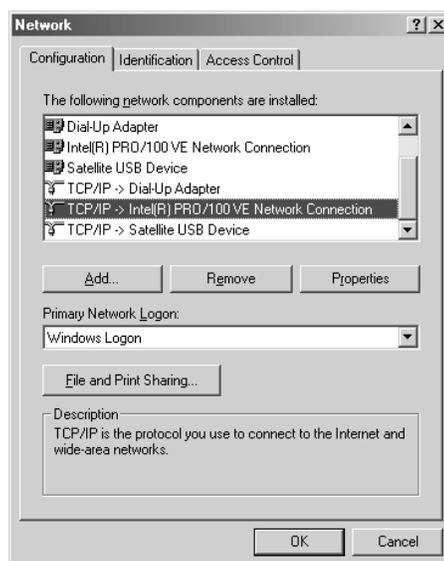

Figure 113: Network window
2. A list of network components are displayed. See Figure 113.